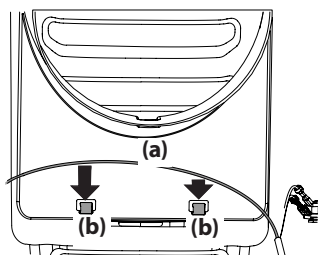

Figure 12
- Secure the headlight harness (a) into the two guides (b) on the front of the plenum. Figure 12.